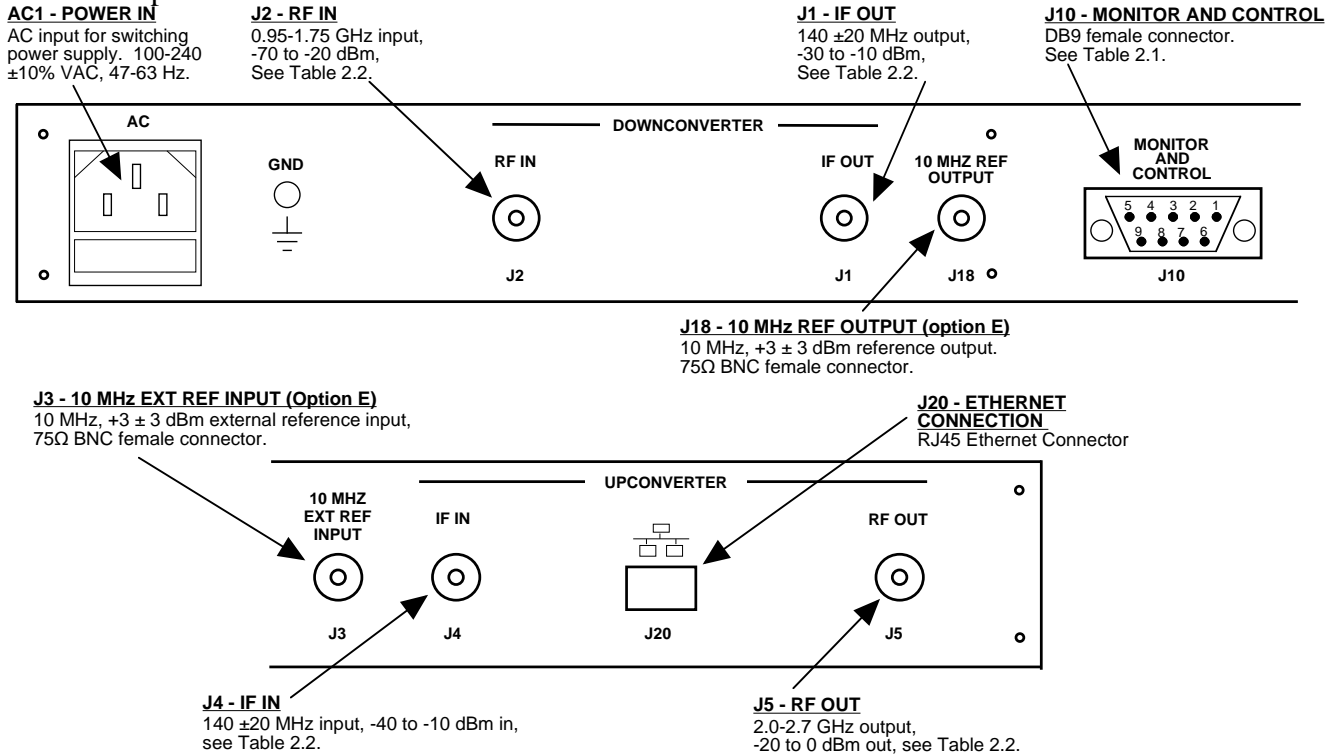

Figure 2.1 Model 2017-2717-140 Rear Panel I/O's
## 2.2 Rear Panel Input/Output Signals and Control - Figure 2.1 shows the input and output connectors on the rear panel.
- 1.) Connect a -40 dBm to -10 dBm signal to IF In, J4 (Figure 2.1).
- 1.) Connect a -70 dBm to -20 dBm signal to RF In, J2 (Figure 2.1).